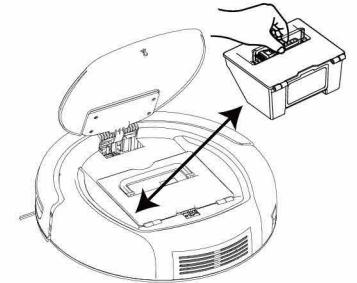

Fig. 2
02. Take out the dustbin (fig. 2).